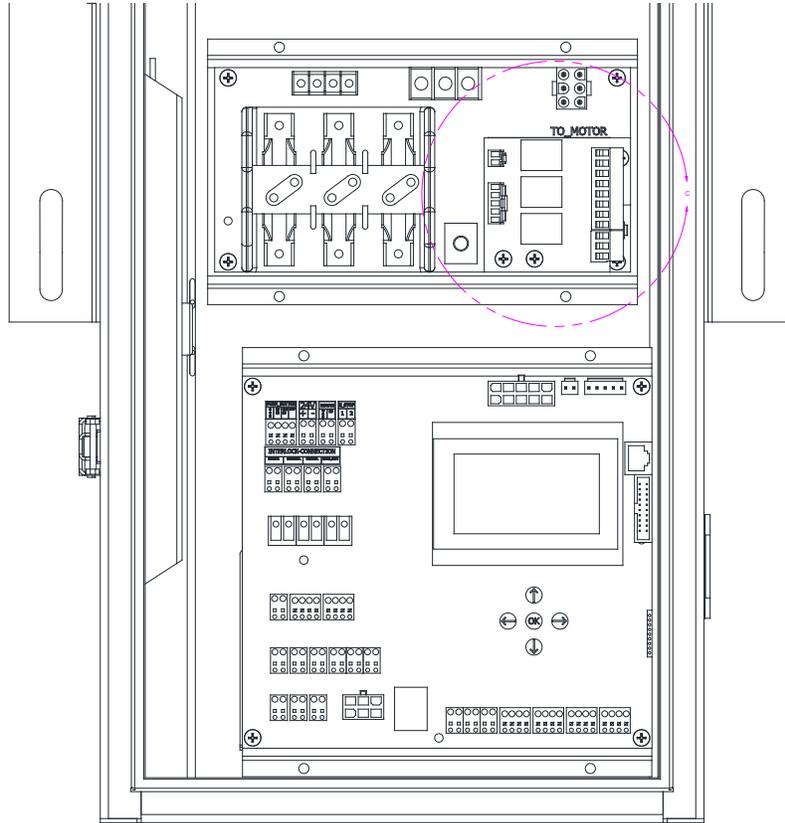
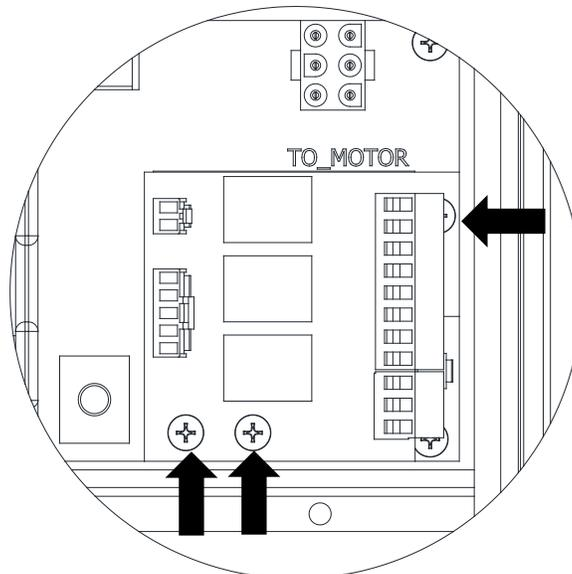

Figure 4
Figure 5
6. Place the Auto-lock Module into the space labeled BRAKE\_CONTROL on the power board and secure into place using 3 of the screws previously removed in step 3. See **Figure 4** & **Figure 5**.